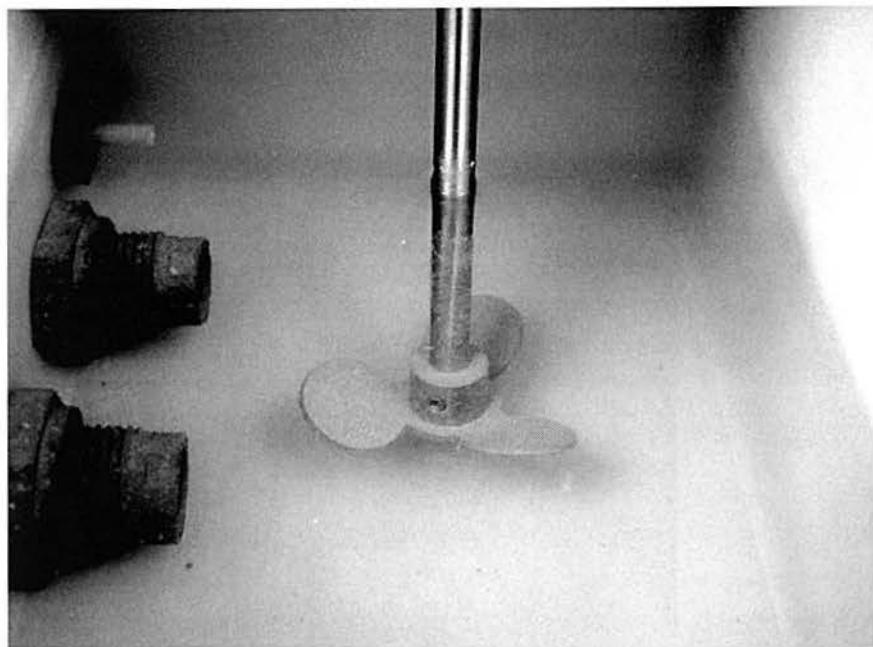

Figure 8. Agitator Blades
2. Look at the agitator turbine blades, shown in figure 8, and determine if the blades are pitched.